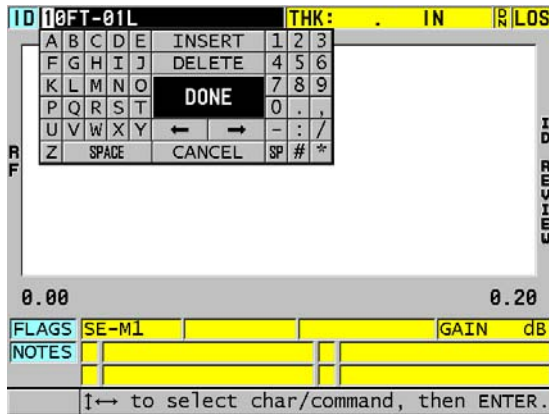

Figure 11-28 Editing the ID # edit mode
4. Press **[ID#]** again, and edit the ID value (see Figure 11-28 on page 200).